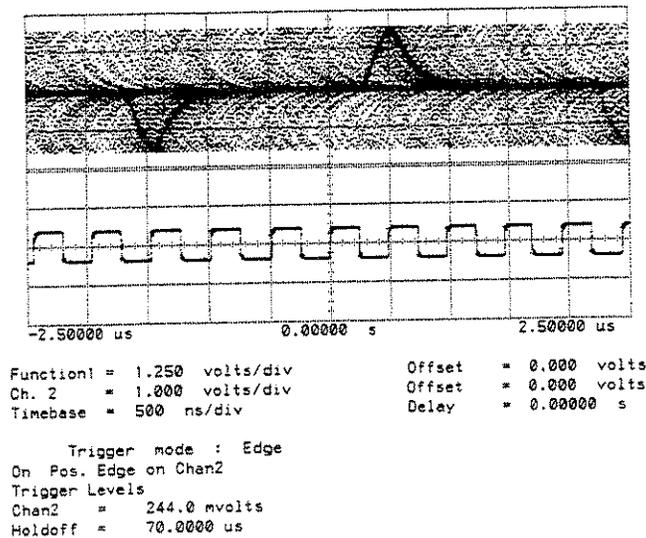

Figure 8-30 8UI p-p Jitter
12. Adjust the Tx Jitter Amplitude P-P field on Page 4 [JITTER TRANSFER FN] until the Tx DATA OUT waveform overlaps itself as shown in Figure 8-30